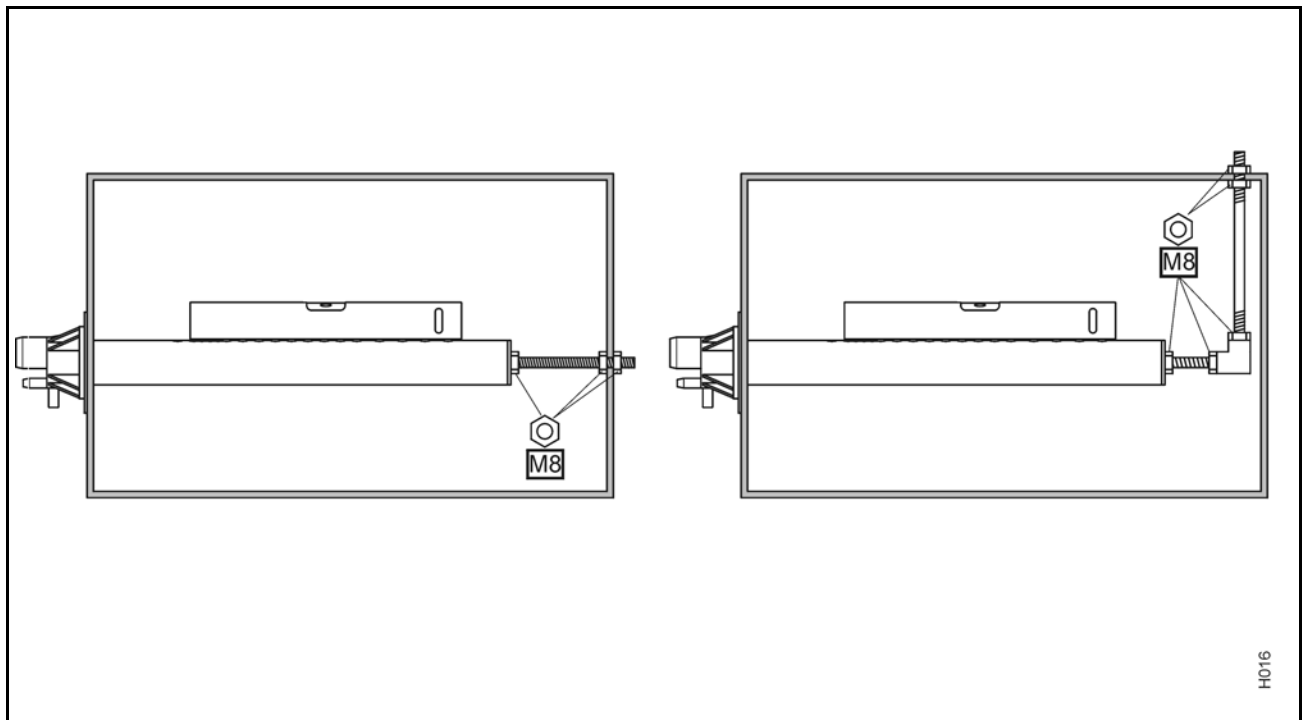

Figure 10. Levelling the Distributor
- (1) NORTEC steam distributors are constructed of stainless steel and include in low point condensate return to prevent the condensate from collecting in the steam distributor. This enables entrained condensate to settle to the bottom of the steam distributor where it is removed by the condensate return. These features allow the NORTEC steam distributors to be installed level in the duct, thereby utilizing the full available width of the duct. (See Figure 10.)
- (3) Longer distributors (more than 36") and distributors mounted on lighter gage sheet metal which cannot support the distributor level in the duct will need to be supported on the end. (See Figure 10.)